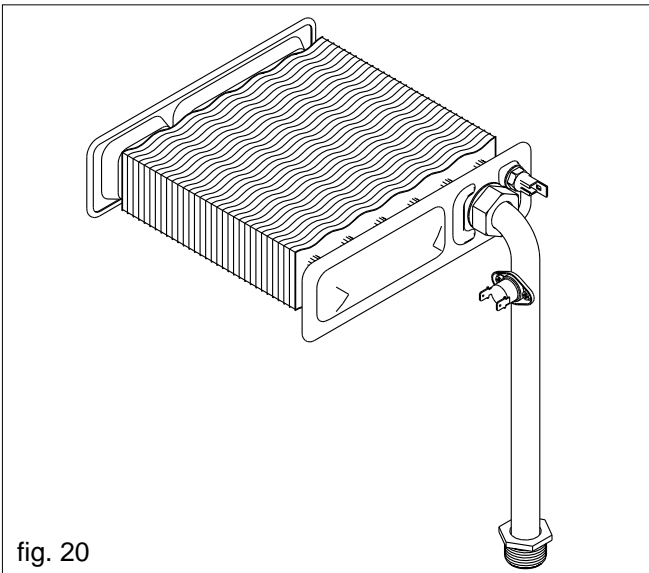

fig. 20
6.10 NTC THERMISTOR (see fig. 20)
6.11 HIGH LIMIT THERMOSTAT (see fig. 20)